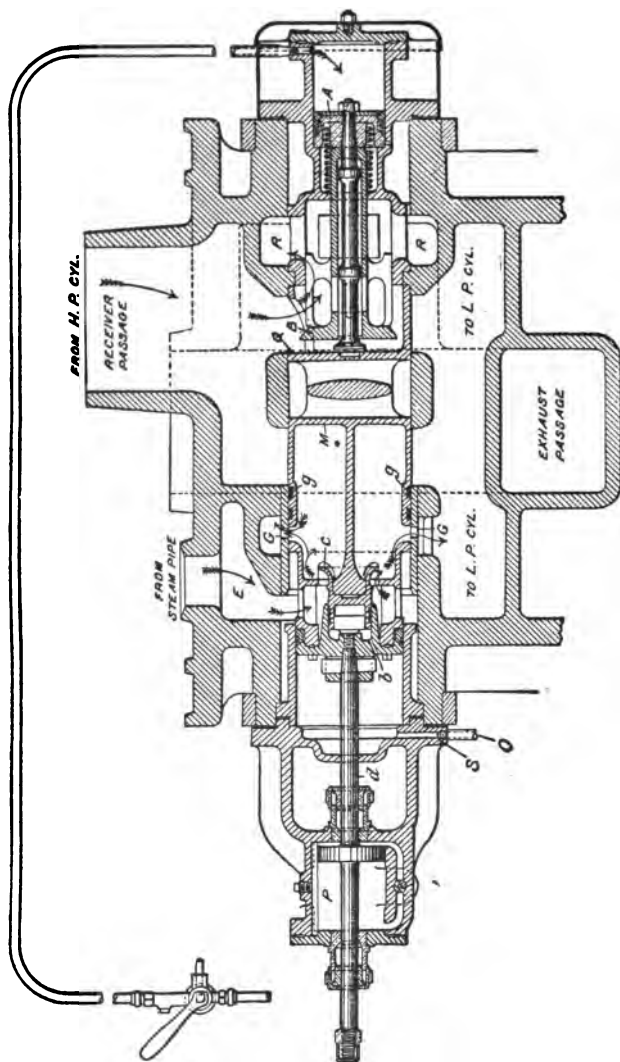

FIG. 69.—INTERCEPTING VALVE OF THE SCHENECTADY COMPOUND LOCOMOTIVE WHEN WORKING AS A SIMPLE ENGINE.
Q. What will be the result if the intercepting valve of a Schenectady compound should become stuck in the closed position, shown in Fig. 69, and what should be done?
The remedy would be to open the emergency or starting valve in the cab and thus admit steam back of the piston *A*, moving it to the left as in Fig. 69, and thus opening the valve *B*, through which the exhaust from the high-pressure cylinder will be permitted to escape from the receiver into the atmosphere.
If running it is well to keep the throttle open so as to hold the valve in one position as far as possible. At the first stop the cap of the valve casing should be removed at *S*, and an examination made of the fracture. If the key only has come out or been broken it may be put back or replaced with another. If the rod is broken the intercepting valve itself may be put in either the simple or compound positions as in Figs. 69 or 70. If in the former it may be held closed by putting a block of wood between the back end of the valve and the inside of the cap and bolting the cap home.
A. This valve is shown in section in Figs. 69 and 70. A leak may exist between the valve *B* and its seat, allowing steam to escape from the receiver into the direct exhaust. This lowers the receiver pressure, tending to decrease the work of the low-pressure cylinder and increase that of the high. The leak, however, is not apt to be serious, and will, therefore, have an inappreciable effect upon the working of the engine.
the position shown in Fig. 69, and live steam will be admitted to the low-pressure cylinder through the reducing valve. The engine can thus be run to destination as a single expansion engine.